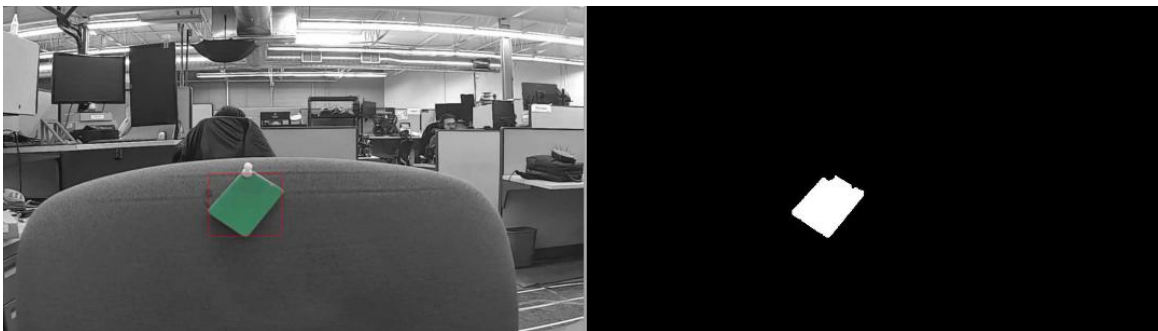

Figure 5. Bounding Box Around Highlighted Object
12. Modify the color input to RED to the Draw Lines module changing RGB values to [255, 0, 0]. See the box change color as shown in Figure 5 below. Move your object around the camera view.